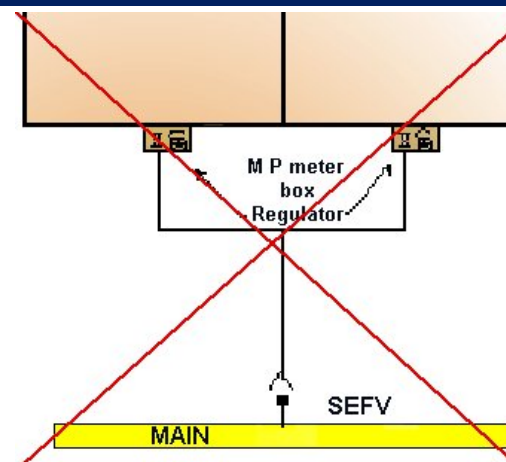

Figure 68 - Unacceptable dual MP service
- An SEFV must not be installed on a medium pressure dual service.** (Figure 68).